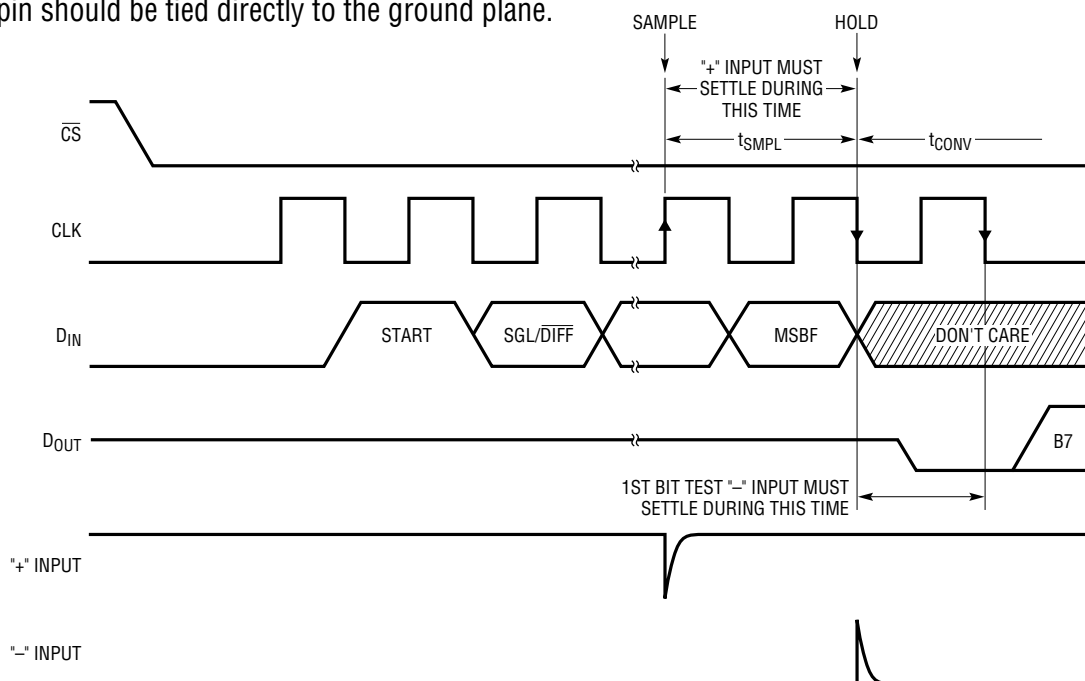

Figure 7. LTC1098(L) “+” and “-” Input Settling Windows
Both the LTC1096(L) and the LTC1098(L) provide a built-in sample-and-hold (S&H) function to acquire signals. The S&H of the LTC1096(L) acquires input signals from “+” input relative to “-” input during the t_{WAKEUP} time (see Figure 1). However, the S&H of the LTC1098(L) can sample input signals in the single-ended mode or in the differential inputs during the t_{SMPL} time (see Figure 7).
The sample-and-hold of the LTC1098(L) allows conversion of rapidly varying signals. The input voltage is sampled during the t_{SMPL} time as shown in Figure 7. The sampling interval begins as the bit preceding the MSBF bit is shifted
The input capacitor of the LTC1096(L) is switched onto “+” input during the wake-up time (see Figure 1) and samples the input signal within that time. However, the input capacitor of the LTC1098(L) is switched onto “+” input during the sample phase (t_{SMPL} , see Figure 7). The sample phase is 1.5 CLK cycles before conversion starts. The voltage on the “+” input must settle completely within
When driving the analog inputs with an op amp it is important that the op amp settle within the allowed time (see Figure 7). Again, the “+” and “-” input sampling times can be extended as described above to accommodate slower op amps. Most op amps, including the LT1006 and LT1413 single supply op amps, can be made to settle well even with the minimum settling windows of 3μs (“+” input) which occur at the maximum clock rate of 500kHz.